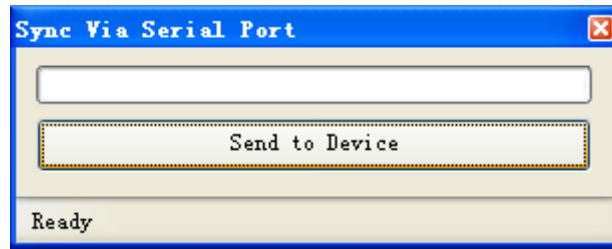

Figure 8-30 Save Data
7. Modify the Host IP Address and Management IP Address as required and save data after completion of modification; select the Tools/OLT CLI Write in the menu to display the window shown in the Figure 8-30 and click Send to Device;